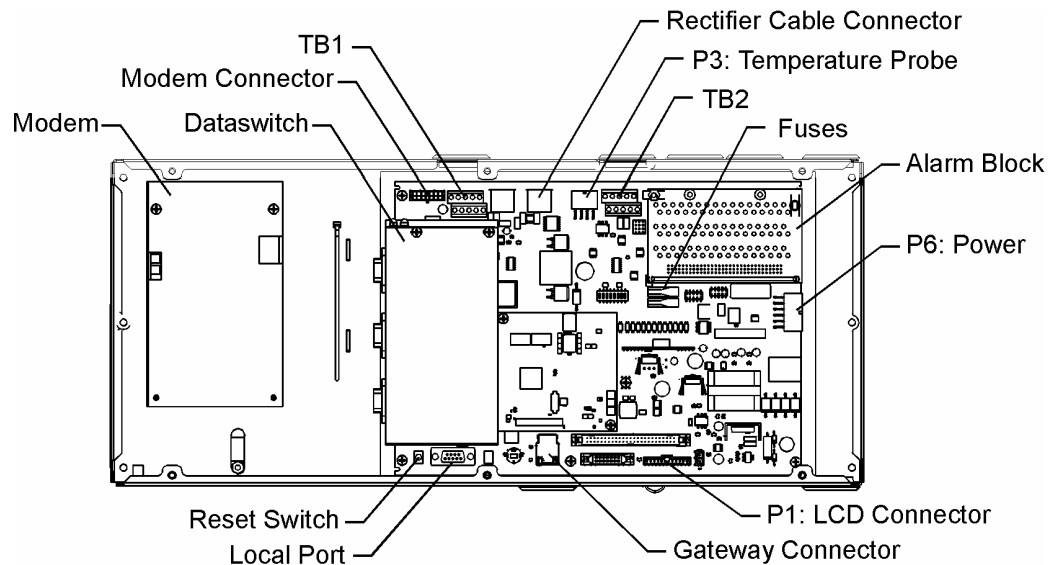

Figure 6-11: Millennium II Controller Connections
5.	<p>a. On the controller (MCR1), locate P2 (Gateway LAN). It is located at the bottom of the controller.(see Figure 6-11)</p> <p>b. If NO Gateway card was installed in the Millennium, then proceed to the next item for connection. If Gateway card was installed in the Millennium:</p> <ol style="list-style-type: none"> 1. Take the existing LAN cable and route it through the top of the controller housing 2. Down the right side 3. Through the bottom of the housing 4. Under the display cable 5. Connect it P2 on the MCR1.
6.	<p>a. Inside of the controller housing, determine if a Modem card is installed. It will be located to the left of the MCR1 board. (see Figure 6-11)</p> <p>b. IF a Modem is installed: Connect the existing telephone cable to the RJ11 connector at the top of the board OR Connect Tip/Ring conductors to TB1 at the top of the board. NOTE: Tip is TB1 pin 1 (Pin closest to the RJ11 connector) and Ring is Pin 3. Pin 2 is not used. If a Modem is to be installed: Please see the Modem installation section, in this manual.</p>
7.	<p>a. If NO cable terminated on P3 on the Millennium, then proceed to the next item for connection. If a cable terminated on P3 on the Millennium, connect the old cable to P3 on the Millennium II. P3 is a white connector located at the top of the MCR1 board. (see Figure 6-11)</p>
8.	<p>a. On the controller, locate the BSL alarm block. It is located in the upper right hand corner of the MCR1 board. (see Figure 6-11)</p> <p>NOTE: It is very important, in the next step, to follow the Alarm Input/Output table in this manual when connecting the alarms. Some Pins may have changed their function.</p> <p>b. Route the alarm wires through the open holes above the alarm block and terminate them accordingly. You may need to reference the Millennium II Alarm Input/Output section for proper connections.</p>
If a cable terminated on TB200 on the Millennium, connect the old bus cable to TB1 on the Millennium II. (see Figure 6-11)
a.	On the controller, locate TB1. It is located at the top of the board. (see Figure 6-11)